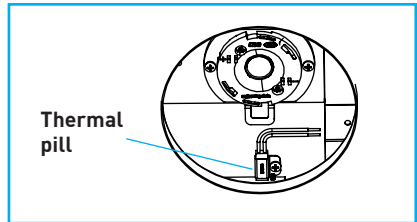

Fig.37
- E. On Non-IC High Flux Adjustable housings only, remove thermal pill from heatsink *"Fig.37"*.
- G. For Non-IC High Flux Adjustable housings only, install thermal pill on heatsink *"Fig.37"*.